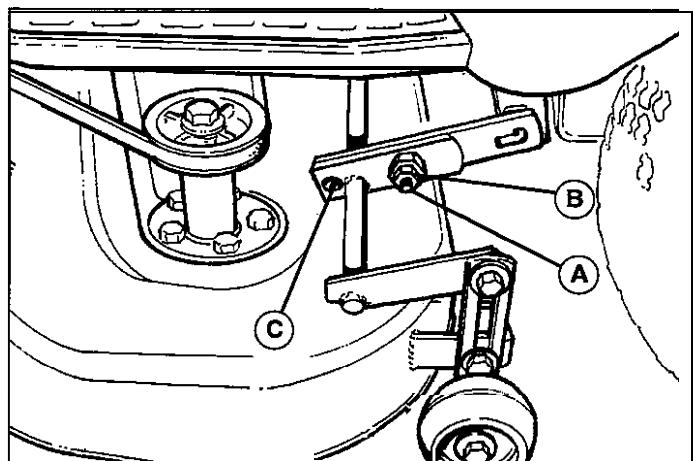

Figure 25. Side-to-Side Adjustment
5. See figure 25. Loosen the outside nut (A) and taptite screw (C), then turn the eccentric nut (B) to raise or lower the left side of the deck. When the mower deck is level, hold the eccentric nut while tightening the outside nut. Tighten the taptite screw (C).